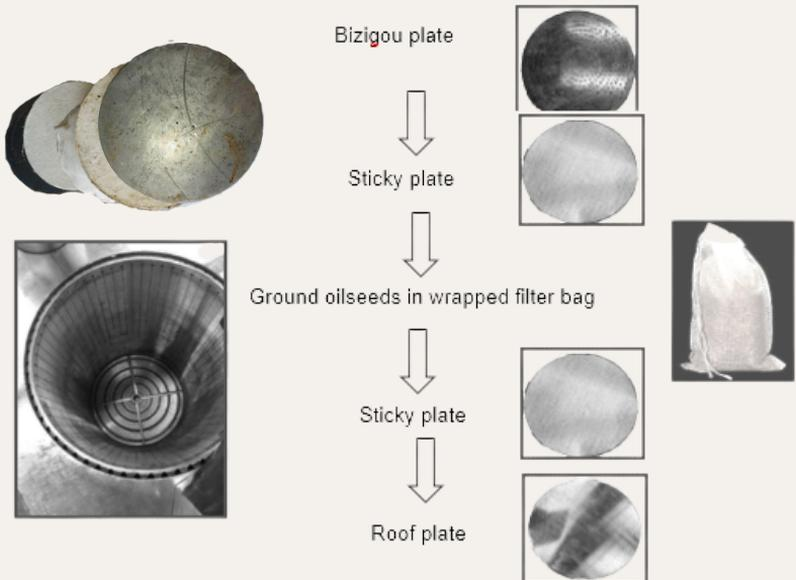

Figure 2.3: Hydraulic oil press setup sequence
6. Place the prepared oilseeds into a tightly knotted filter bag and insert the bag carefully into the press barrel, following the sequence illustrated in the Figure 2.3.